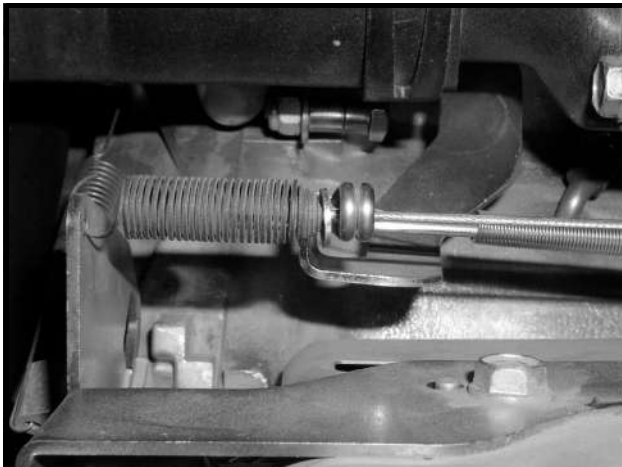

Figure 13a-22 Washer Width Space
3. Adjust the accelerator cable at the pedal until there is a washer-width space between the washer and the governor wire form as shown (**Figure 13a-22, Page 13a-22**).
- The (transmission) governor arm (4) must be adjusted every time the governor cable (5) is replaced or removed and every time the governor wire (9) is removed (Figure 13a-23, Page 13a-24). Incorrect adjustment may result in severe personal injury or death.